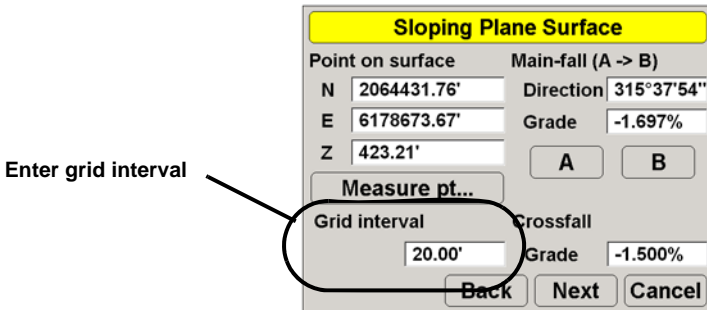

Figure 3-12. Enter Grid Interval
- Press the Grid interval entry box, enter the desired grid interval to be represented on the Main Screen, and press **Ok** (Figure 3-12).